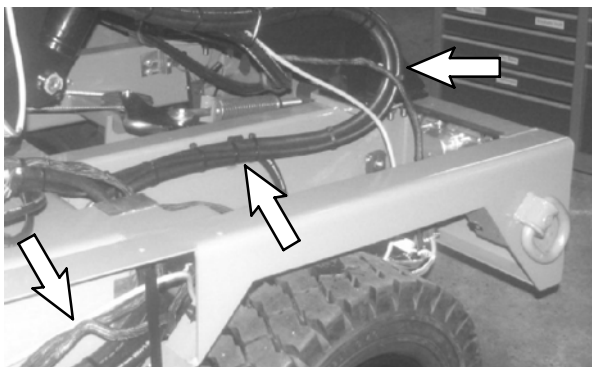

FIG. 25
41. Route the arrow stick cable assembly (2) along the wire harness, out the service channel, and to the hopper harness. Use cable ties (12) to secure the arrow stick cable assembly to the wire harness. Refer to Fig. 25.